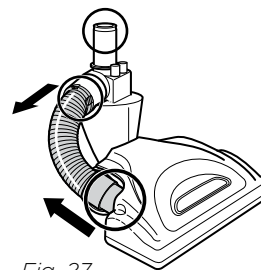

Fig. 27
- Detach the hose on the motorized floor nozzle at the top by squeezing the tabs together and pulling out, and at the bottom by pulling out the connector. Inspect the 3 openings. **(Fig. 27)**